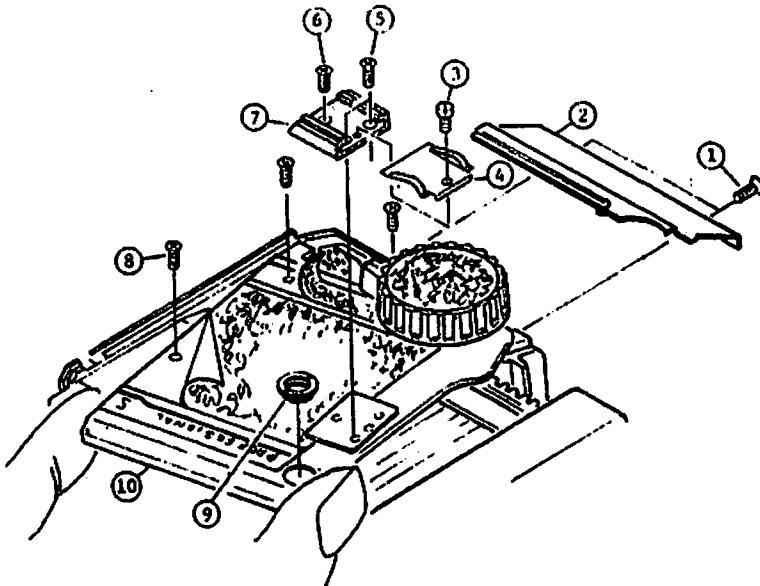

Fig.1
- (1) The arabic numeral in a circle indicates the procedure of removing.
- (2) Slide Right panel forward, then pull out upward as shown in Fig.1.